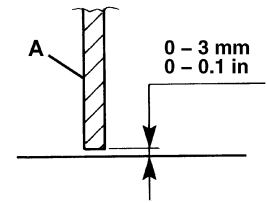
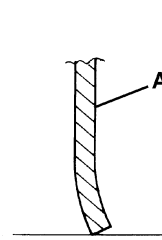
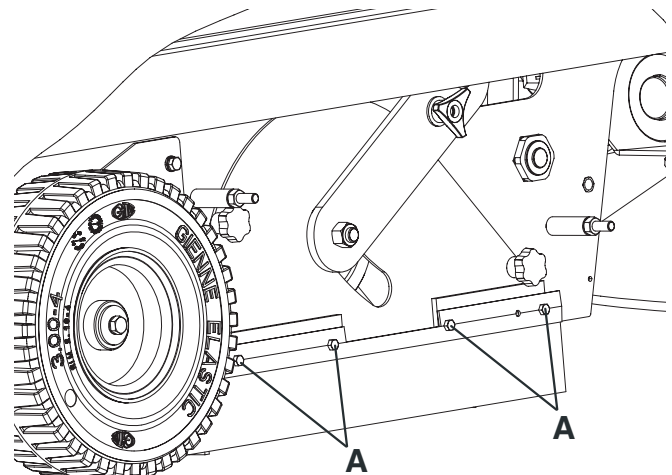
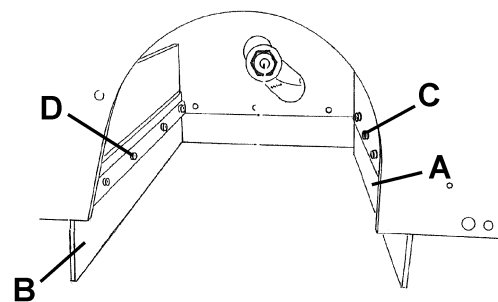

Figure 13
Figure 14
Figure 16
Figure 17
5. Check that distance from the ground of the side skirts (13 and 14) is within 0 – 3 mm (A, Fig. 13). If necessary, adjust the skirt height by using the slots on the screws (A, Fig. 16).
- The front skirt (A, Fig. 17) slightly touches the ground and that it is not detached from the ground (A, Fig. 14).
- The distance from the ground of the rear skirt (B, Fig. 17) is within 0 – 3 mm (A, Fig. 13).
10. If necessary, adjust the skirt height by using the slots on the screws (C and D, Fig. 17).